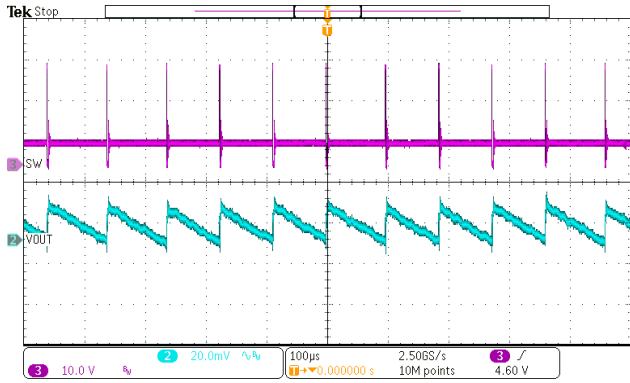

Figure 14. SW node waveform and Output Ripple
The SCT9330 features external programmable output voltage by using a resistor divider network  $R_1$  and  $R_2$  as shown in the typical application circuit Figure 14. Use equation (11) to calculate the resistor divider values.